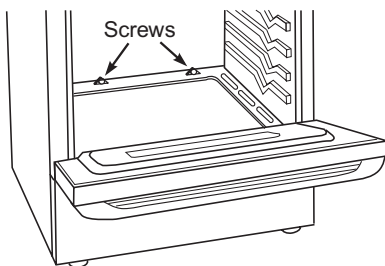

Figure 13
2. Remove 2 screws at the rear of the oven bottom. Lift the rear of the oven bottom up and back until the front of the panel is away from the front frame. Remove from oven (refer to Figure 13).